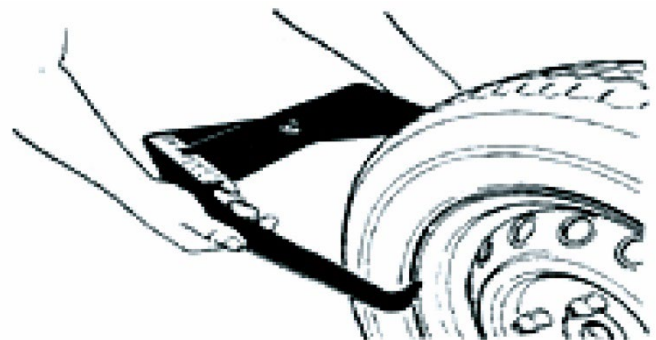

fig.2
- * Setting the "b" value: Read off the diameter indicated on the wheel or use the width gauge (as shown in Fig.2), then enter the value using the  or  buttons.